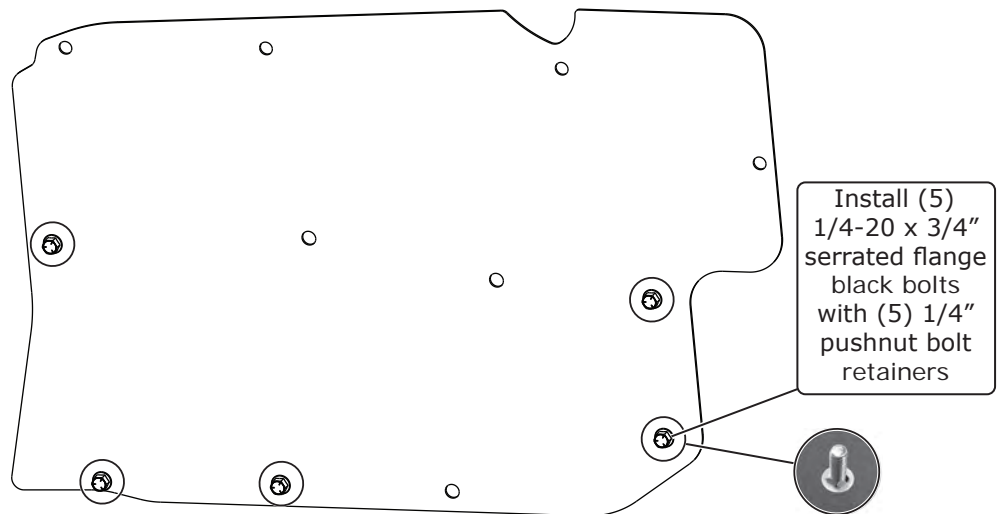

Figure 1
2. Install (5) 1/4-20 x 3/4" serrated flange black bolts with (5) 1/4" pushnut bolt retainers onto the firewall cover (See Figure 1, below).